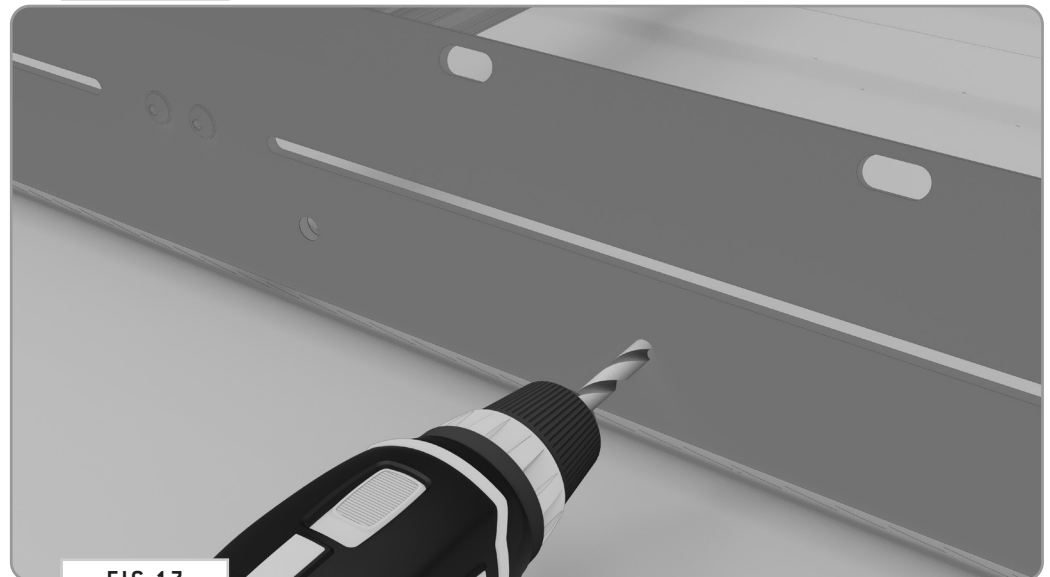

FIG 17
4.2a Drill Holes: Remove the **Surf Pole** from the **Hangar Bracket** and drill out the holes using a **25/64" Drill Bit** (**FIG 17**).